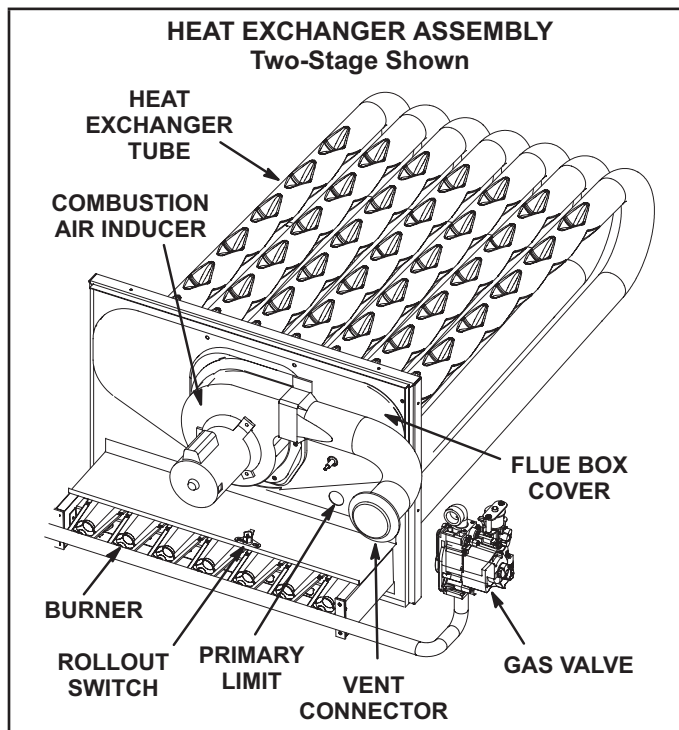

FIGURE 32
- 4 - Remove and retain screws securing combustion air inducer to flue box. Remove vent connector. See FIGURE 32.